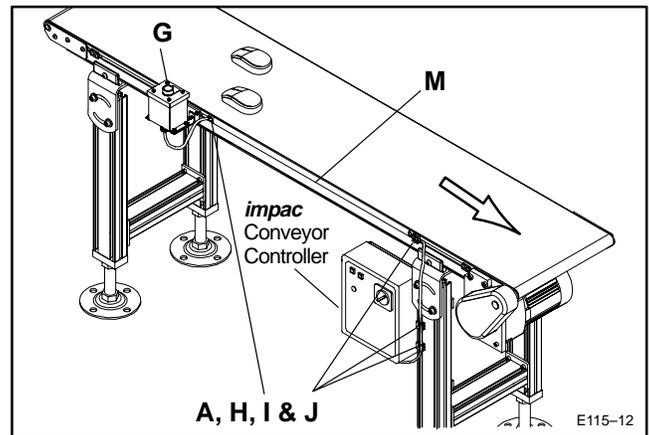

Figure 12: Jog Cable Routing to *impac* Conveyor Controller
- Figure 12 shows a typical wire routing of a Jog connection to an *impac* Conveyor Controller using the Conveyor's T-Slot channel with both T-Slot Closure Strips and Zip Ties (J).
- Shown here is an application using a Jog to start and stop a Conveyor (Figure 12).